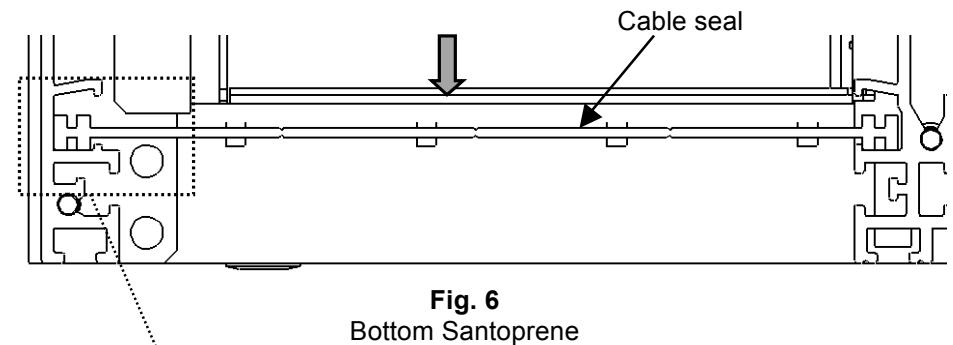

Fig. 6
5. For installing bottom cable seal, place it as shown in fig.6 and place the clip inclined to the opening of the extrusion (Fig.7). Push the clip inside the extrusion to lock (Fig. 8).